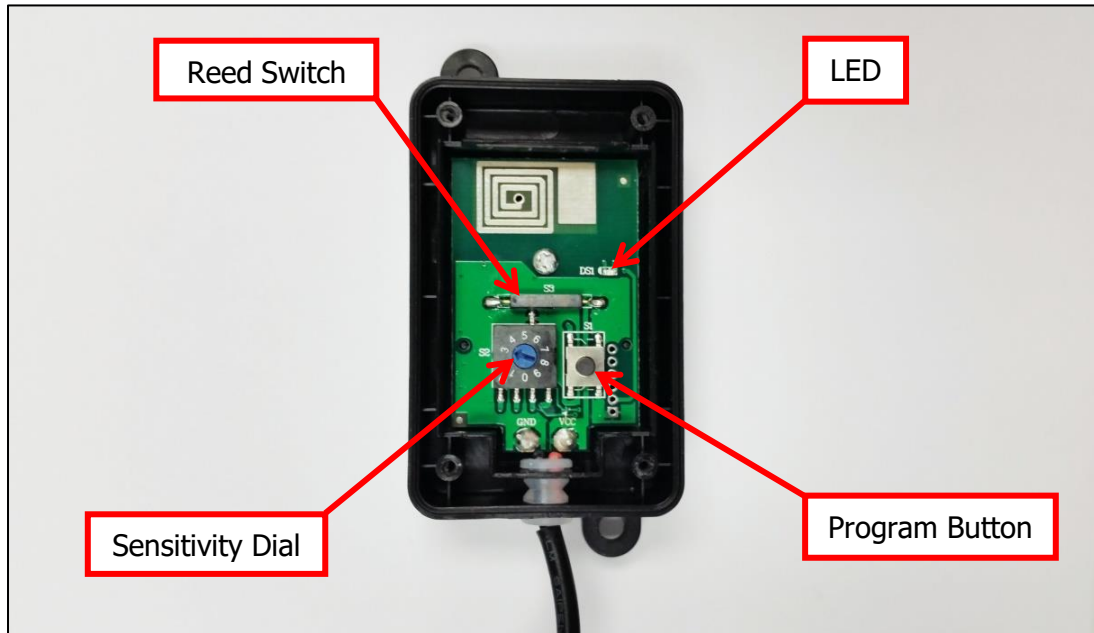

Fig.14
- d. Turn the base plate over (Magnet down). Then place the motion sensor on top of it so that the magnet is aligned with the reed switch. See fig.14. **If this is not done the default program cannot be changed.**
- Set the Motion sensor Adjustment Dial to level 5. (See Fig.14)
- f. Press the programming button on the GC779G Motion sensor (See Fig.14). Both the Purple LED on the Motion sensor and the green LED on the Motor controller will flash once and extinguish. This completes the programming sequence.